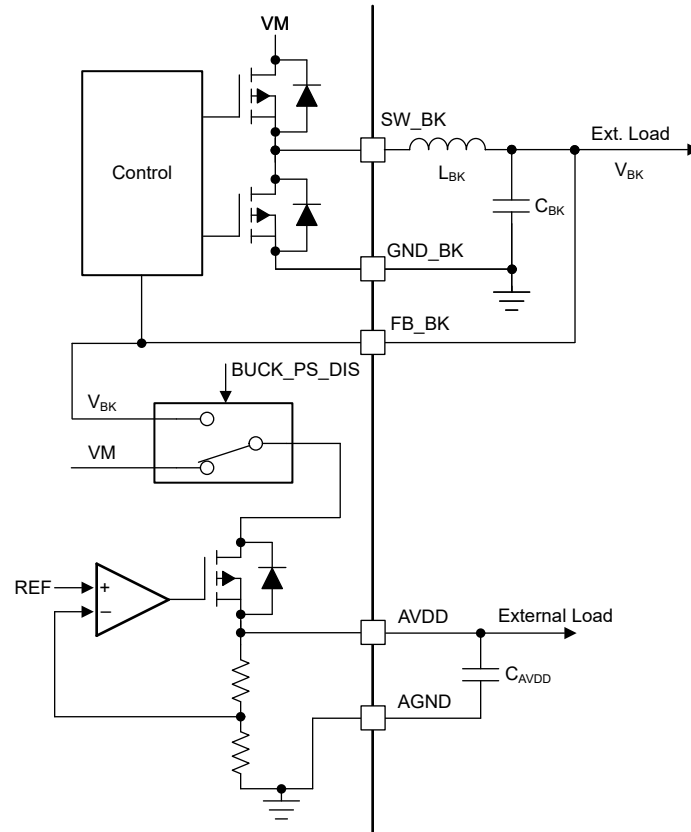

Figure 8-12. AVDD Power Sequencing on mixed mode Buck Regulator
The AVDD LDO has an option of using the power supply from mixed mode buck regulator to reduce power dissipation internally. The power sequencing mode allows on-the-fly changeover of LDO power supply from DC mains (VM) to buck output (VBK) as shown in Figure 8-12. This sequencing can be configured through the BUCK_PS_DIS bit . Power sequencing is supported only when buck output voltage is set to 5.0 V or 5.7 V.